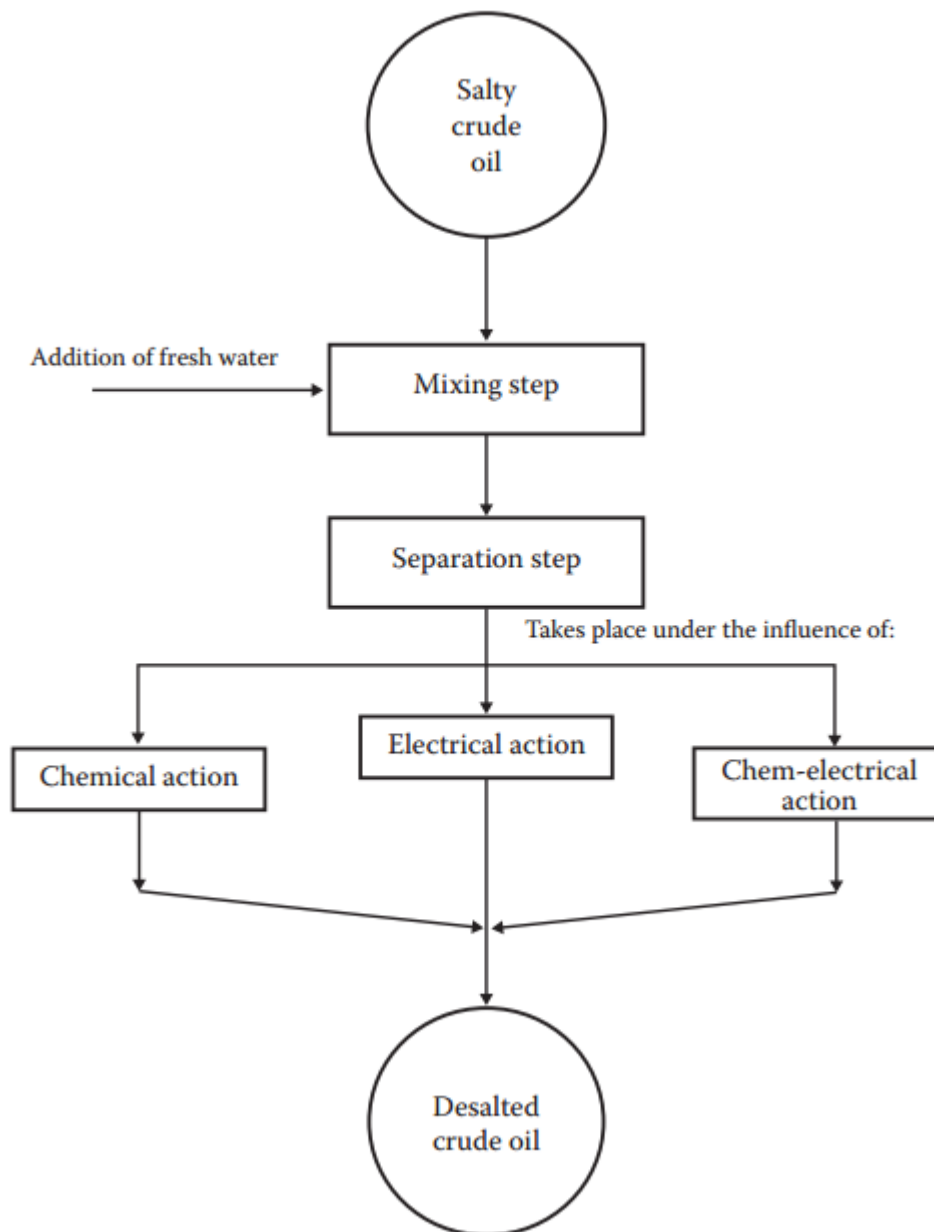

Figure 1: Illustration of the basic concept in the desalting operation of crude oil.
Figure 1 is explained of the basic concept in the desalting operation of crude oil.
The example is solved using two approaches: One is based on Figure 1 and the other approach utilizes basic calculations.
1. Using Figure 1, the PTB of crude oil having 0.1% remnant water with 40,000 ppm salinity is found to be 14 PTB. For crude oil containing 10% remnant water, the value of PTB obtained from the figure should be multiplied by 100; therefore, the given crude contains 1400 PTB.